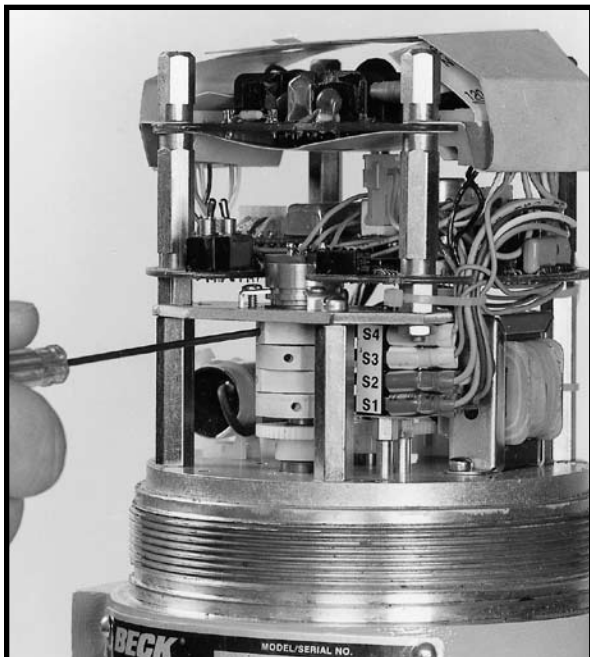

Figure 5
2. Rotate the output shaft until the locking screw of the CCW travel limit cam (second from top) is accessible. Using a 5/64" hex wrench, loosen the screw so that the cam is just snug on the shaft. See Figure 5.
2. Rotate the output shaft until the locking screw of the CW travel limit cam (top switch) is accessible. Using a 5/64" hex wrench, loosen the screw so that the cam is just snug on the shaft. See Figure 5.
2. Rotate the output shaft until the locking screw of the auxiliary switch cam (lower two cams) is accessible. Using a 5/64" hex wrench, loosen the screw so that the cam is just snug on the shaft. See Figure 5.